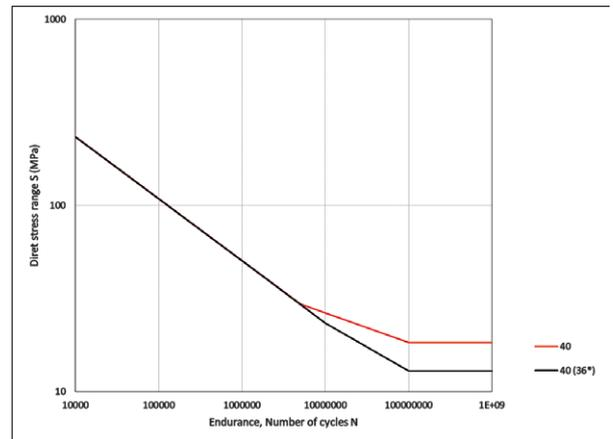

Figure 4: Fatigue strength curves
Checks on two welds are necessary for the end connection: the tube to end plate and the end plate to spade end welds. The relevant detail categories are 40 and 36\*; the latter category has a modified curve in accordance with clause 7.1(3) Note 3 in Part 1-9. The curves are shown in Figure 4.